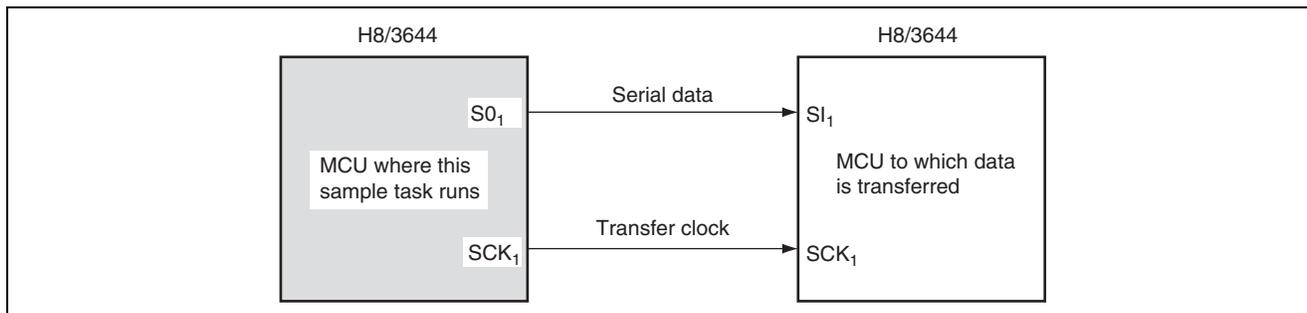

Figure 1.1 Serial Data Transmission in Synchronous Mode
1. As shown in figure 1.1, four bytes of 8-bit data are transmitted using the serial data transfer function in synchronous mode.